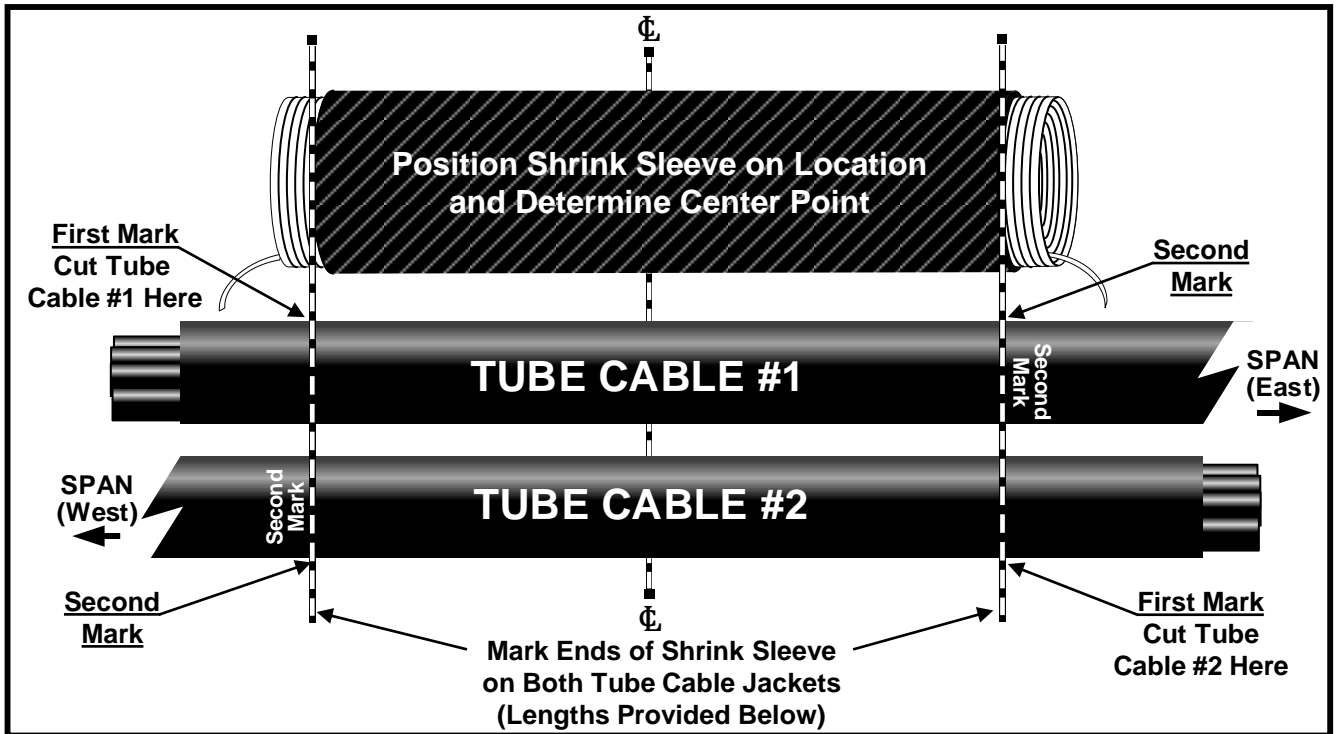

Figure 2 - Preparing Tube Cables
6.4 Mark Both Tube Cable jackets to coincide with left and right ends of Shrink Sleeve. See Fig. 2.